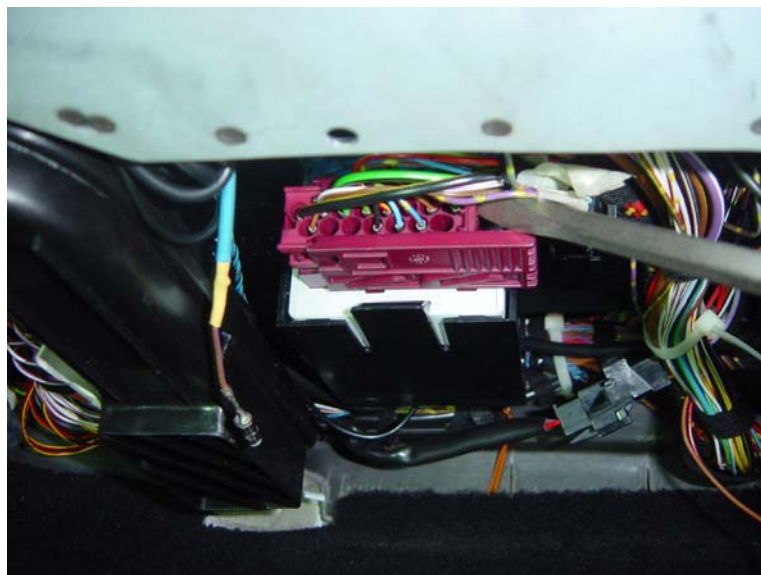
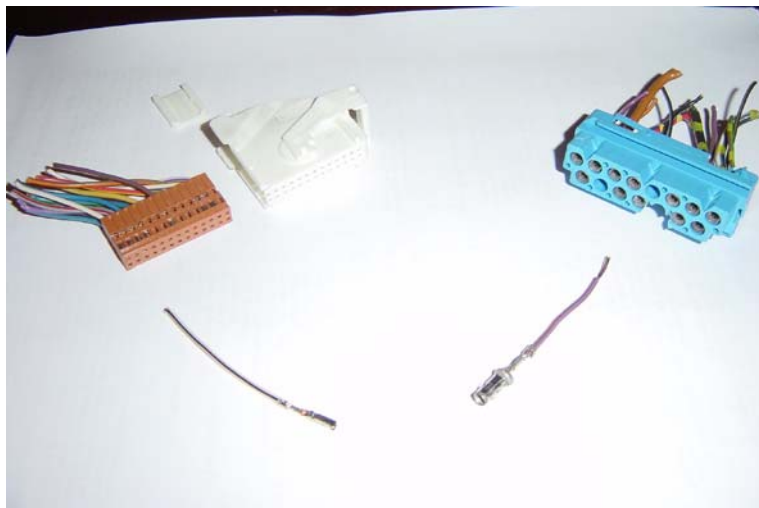
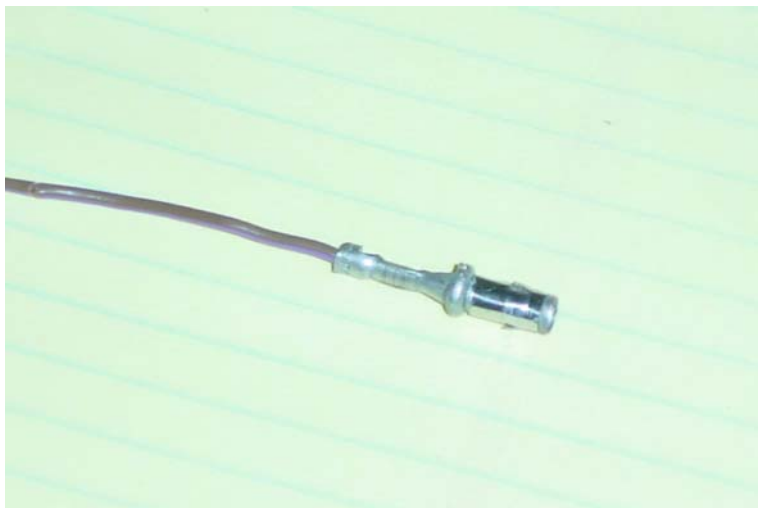

Figure 3 – X1659 EWS Connector being disassembled.
Figure 4 – Extracted small pin from X16 (left) and large pin from X1659 (right).
Figure 8 – Extracted X1659 Pin
- iv) X16 and/or X17 Connector – These are connectors found behind the instrument cluster of any E36 BMW. You are acquiring these connectors because you will need to extract a SINGLE pin/wire for use in this DIY (as shown in Figure 4). The pin/wire will be spliced to one of the wires from the X1071 connector and then plugged into an empty slot on one of the instrument cluster connectors on your car. Both connectors contain the same pins and collecting both only serves to ensure you'll have the proper color wire to match to the X1071 connector pigtail. If that's not important to you, just buy one and pick any pin to extract. If it is, then buy both. Once you understand the wiring schematic and actually see what kind of wiring you have behind your instrument cluster, you will understand which pin/wire you'll need. Acquire them with a pigtail. The X16 is white and the X17 is blue (**Figure 2**). Any E36 will have these connectors. Mine were from a 94-325is which I located at a local salvage.
- v) X1659 Connector – As with the X16 and X17 connectors, you are buying this connector to extract a single pin/wire for use in this DIY (Figure 4). You will need to acquire this connector with a pigtail. The connector in my 98.5 M3 was red, directly behind the glovebox sheetmetal crossmember and under a blue connector of the same size (**Figure 3**). It is a large connector with wires matching the colors in the Bentley manual (ELE-150). In my car, Pins 6, 10, 11 and 15 were empty. The empty slot Pin 15 is the one that will be utilized for this DIY. In cars with cruise installed, Pin15 is wired with a Blk/Grn wire. I bought this connector from the same salvage I got the other connectors. In my case, the X1659 I acquired was off a 97-M3.
- ii) The following summarizes the wiring harness schematic and identifies the routing destination, wire color and method of attachment. ‘Cable’ – describes how the individual wires should be built. Example: (2) SpFrom X1071 Pin 4 splice 4.0’ of orange wire. Note: AR = as required. Strikethroughs identify where my experience was different from that of the Pelican Article.
- (1) X1071-Pin1 (black/green wire)**
- (a) Cable: Splice 3.5 ft. of BLACK wire to X1071-Pin1 pigtail. Splice large pin (Figure 4) from extracted X1659 connector to BLACK wire.
- (5) X1071-Pin7 (white/yellow wire)**
- (6) X1071-Pin8 (red/yellow wire)**
- (7) X1071-Pin9 (white/gray wire)**
- (a) Cable: Splice 3.5 ft. of GRAY wire to X1071-Pin9 pigtail. Splice small pin (Figure 4) from extracted X16 (or X17) connector to GRAY wire.
- (8) X1071-Pin13 (brown wire)**
- (1) Goal – To get the two pins (with crimped wire) needed to complete the X1071 wiring harness per schematic (**Figure 4**). By collecting these, the installation of the X1071 wiring harness is much easier. These pins will be spliced to the ends of X1071-Pin1 and X1071-Pin9 so that all you have to do is route the wires to the proper connector and slip in the pin.
- (3) EWS II X1659 Pin – This pin is larger and more difficult to remove than the X16/X17 small pins. The pin itself has spring loaded fins that allow it to lock into the socket of the connector (**Figure 8**). As a result, you will need to actually cut into the acquired X1659 connector to remove the pin. I used a dremel tool to cut into the connector until I could gingerly remove the pin (**Figure 4**). Be careful not to smash or damage the pin with this method.